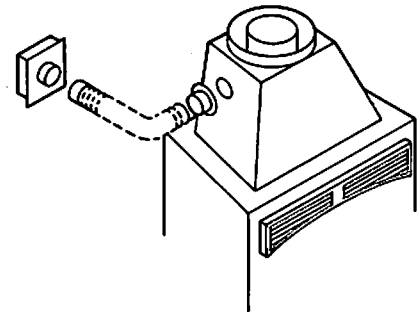

Figure 10
Step 5. Attach the 4"(102mm) collar from the chimney air kit over the grill on the closed end of the transition, using the four (4) screws mounted on the transition (Figure 10).